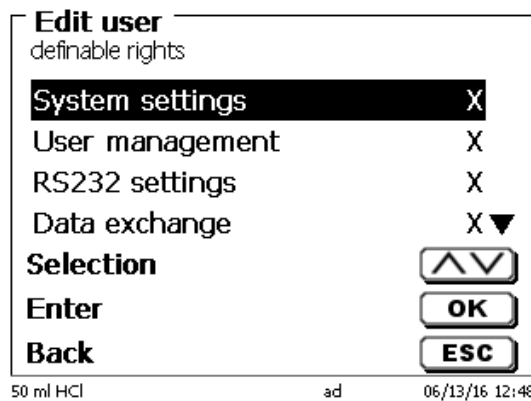

Fig. 115
**X** means **no access**, **W** means **access**. You can change with <ENTER>/<OK> from **X** to **W**. Below you can see all possible definable rights (Fig. 115 - Fig. 120).